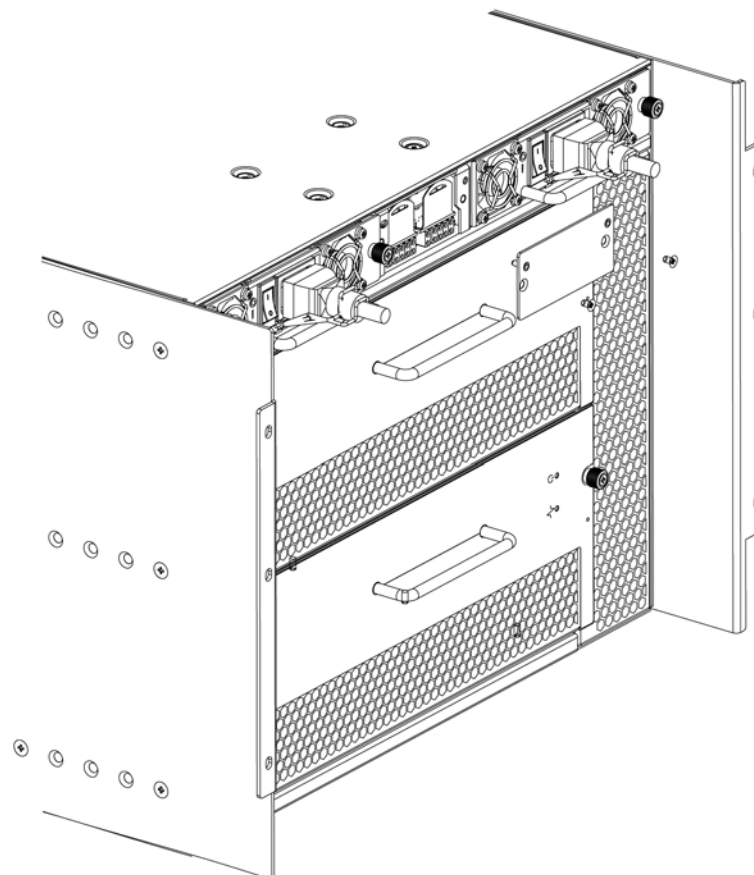

FIGURE 28 RRP: WWN bezel (logo plate) and WWN card
3. Remove the two screws from the WWN bezel (Figure 28). Pull the bezel away from the chassis and set it aside. The WWN cards and their status LEDs are visible.
5. Install the WWN bezel. Orient the bezel on the chassis (Figure 28). Insert and tighten the two screws.